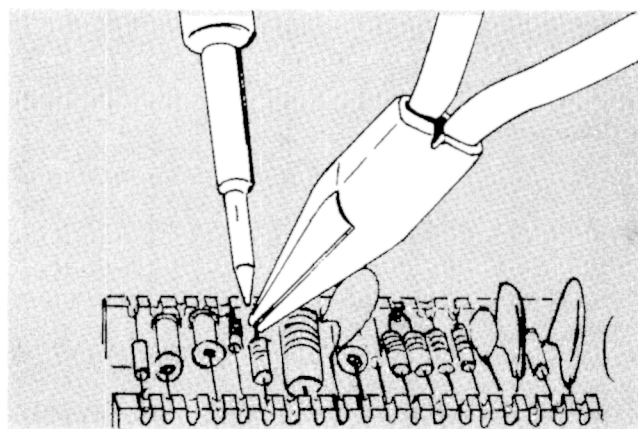
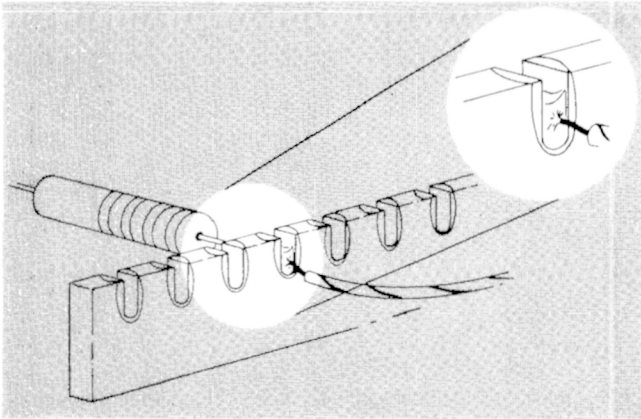

Fig. 4-2. Correct method of applying heat when unsoldering or soldering leads to a ceramic strip.
Fig. 4-3. A slight fillet of solder is formed around the wire when heat is applied correctly.
3. Apply one corner of the soldering iron tip to the notch where you intend to unsolder the lead (see Fig. 4-2).
6. Do not attempt to fill the notch on the strip with solder; instead, apply sufficient solder to cover the wire adequately and to form a slight fillet on the wire as shown in Fig. 4-3.
In soldering leads to metal terminals (examples: Interconnecting plug, pins on a tube or transistor socket) a similar technique should be employed. Use a soldering iron tip having a shank diameter of $\frac{1}{8}$ " so that it will go through small spaces between wiring. Prepare the soldering iron as outlined previously and apply the iron to the part to be soldered as shown in Fig. 4-2. Allow the joint to heat sufficiently to permit the solder to flow freely and to form a slight fillet around the wire as shown in Fig. 4-3.